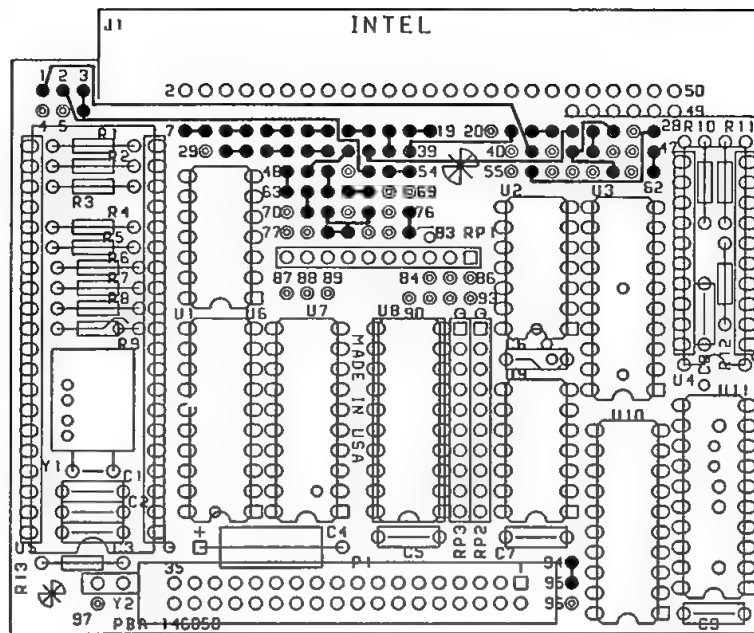

Figure 2-4. 3M Jumper Configuration
Jumpers are used to define the type of tape drive in use. Table 2-1 and Figure 2-3 summarize the jumper configuration for the QIC-02 interface drive (factory default configuration). Table 2-2 and Figure 2-4 give the jumper configuration for the 3M drive interface.
2. Install the wire-wrap jumpers as shown in Table 2-2 and Figure 2-4.
3. Insert the push-on jumpers as shown in Table 2-2 and Figure 2-4.
5. Remove the socketed device at location U4 (see Figure 2-4). Program a blank PAL16R6 device with the PALASM† source code contained in Appendix B. Install the PAL16R6 device in location U4. Ensure that pin 1 of the device is oriented with pin 1 of the socket. The PALASM assembler and blank PAL16R6 devices can be obtained from Monolithic Memories, Inc.